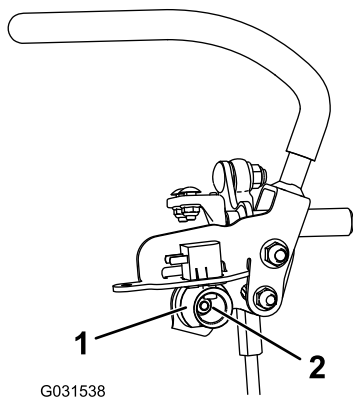

Figure 80
6. Loosen the nut holding the cam (Figure 80).